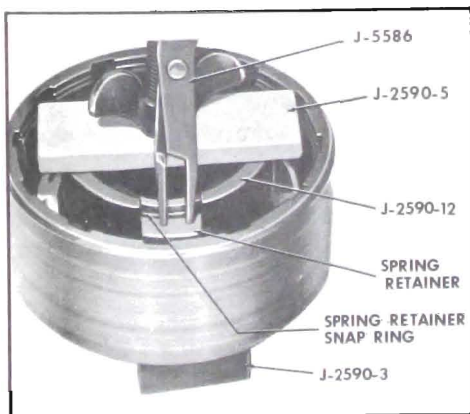

Figure 5-230
7. With spring retainer in place compress spring retainer with Tools J-2590-3, J-2590-4 and J-2590-5 far enough so the spring retainer snap ring can be installed. Make sure retainer doesn't catch in snap ring groove when compressing springs. See Figure 5-230.